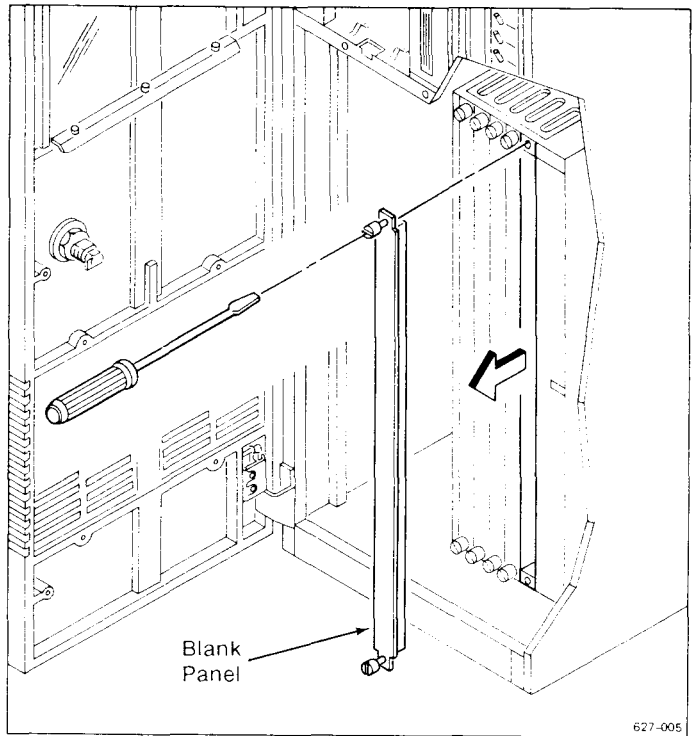

Figure 6-1. Removing a Blank Panel
2. Remove the blank panel (see Figure 6-1).